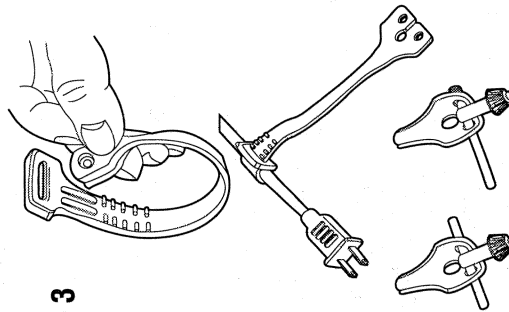

Figure 3
1. Push double hole end of holder through slot in other end of holder as shown in Figure 3.